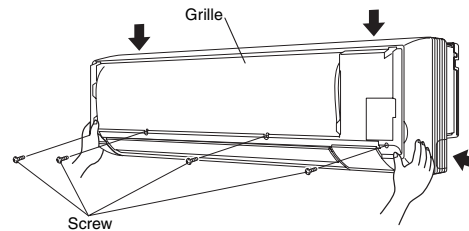

Fig. 10
- (3) Remove the 4 screws. Grasp the grille on both bottom sides, and pull it towards you slightly. (Fig. 10)
- (4) Press the 2 tabs on the top of the grille to disengage them. (Fig. 10)
- (5) Pull the grille towards you to remove it. (Fig. 10)